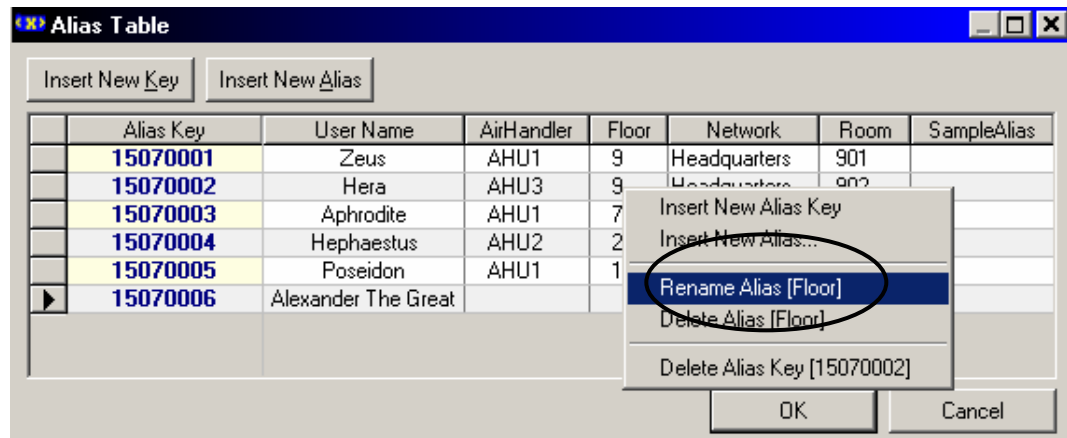

Figure 9.22. New Alias Added to Table
3. The new alias column appears in the table, as shown in **Figure 9.22**.